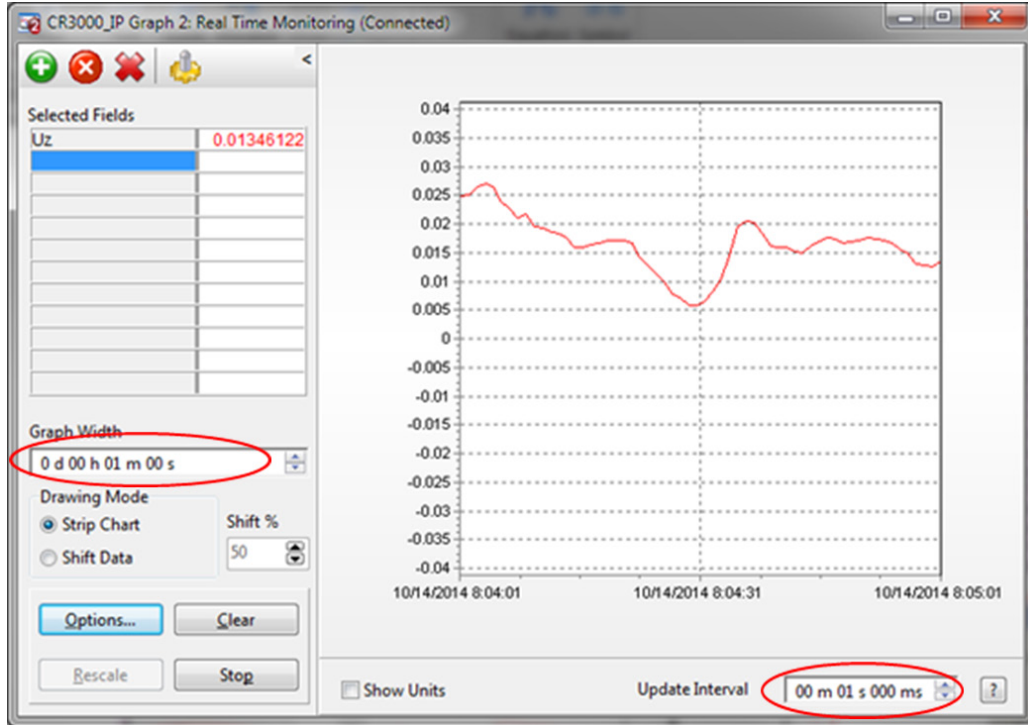

FIGURE 9-4. CSAT3B real-time data with 1 sec update and u_z wind component graphed
- b. On the second graph add the u_z wind component and set the y limits from -0.04 to 0.04 as shown in FIGURE 9-4.